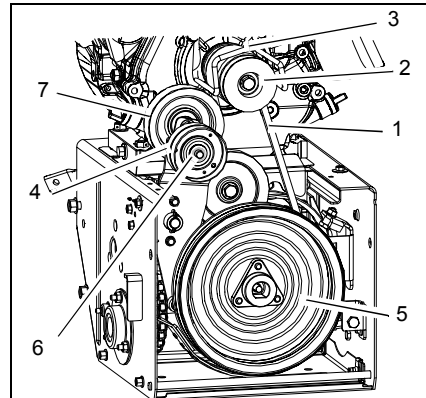

Figure 31
(Figure 31)
2. Remove hairpin attaching traction cable to the idler arm, and disconnect the cable. (Figure 31).